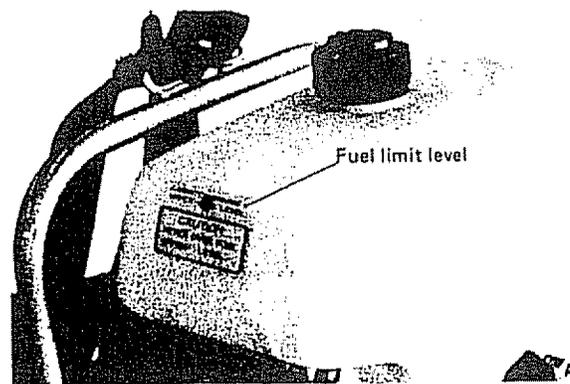
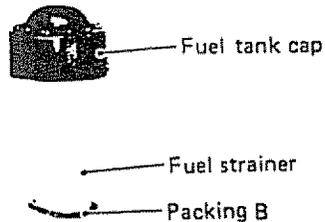

Figure 4
Figure 11
- (1) Do not fill fuel above fuel limit level. (Fig. 4)
- (2) Wipe all spilled fuel with a dry cloth.
- (3) Always attach the fuel strainer. (Fig. 11)
- (4) Tighten fuel cap securely.
2. Fuel strainer (Fig. 11)